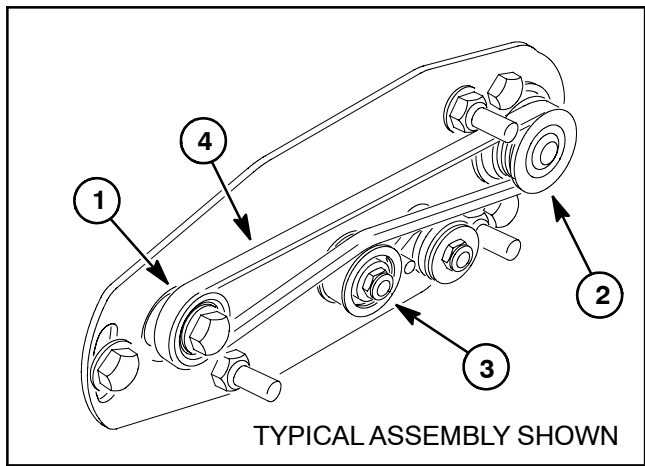

Figure 57
G. To install drive belt, loop belt around driven pulley and over the top of the idler pulley. While rotating the cutting reel, carefully guide belt onto drive pulley (Fig. 57). After belt installation, make sure that belt and pulley grooves are aligned and that belt is centered in idler pulley.